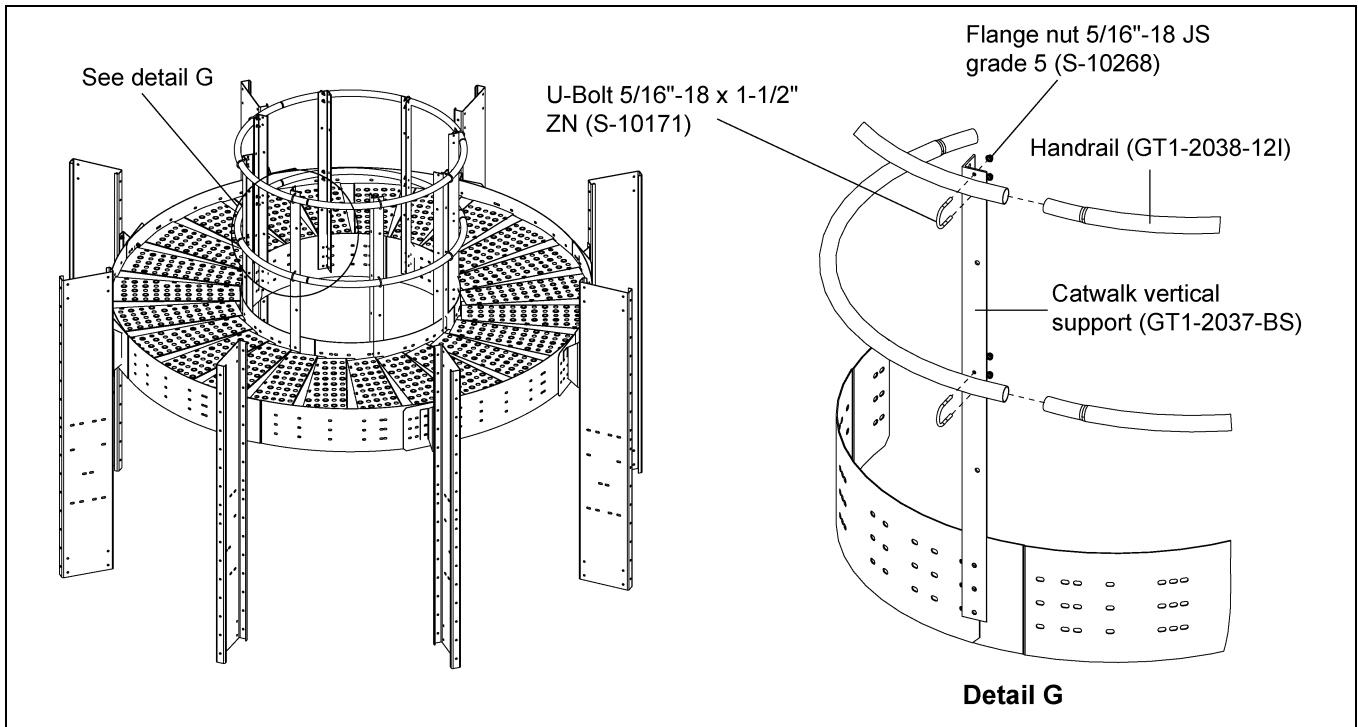
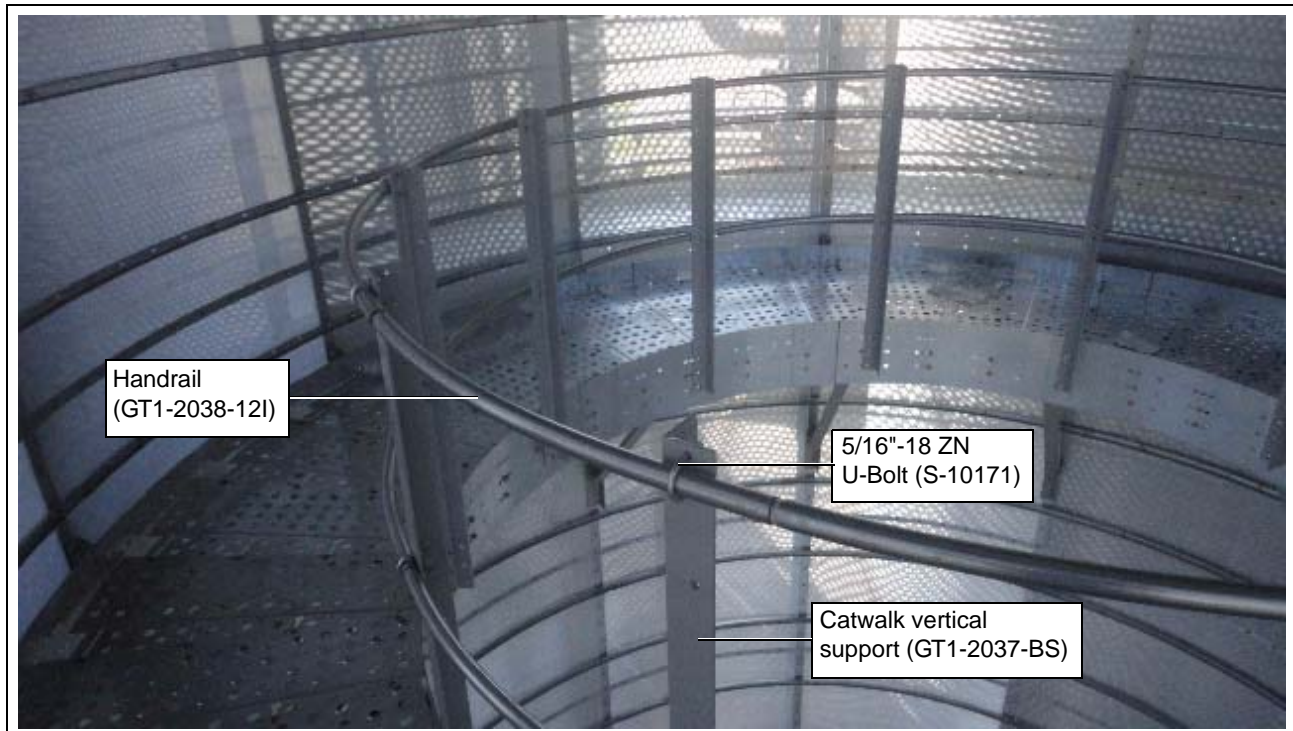

Figure 5L
Figure 5M
1. Install the handrail (GT1-2038-12I) to the catwalk vertical support (GT1-2037-BS) using 5/16"-18 ZN U-bolts (S-10171) and 5/16"-18 JS grade 2 nuts (S-10268) to tighten the handrail with vertical post. (See Figure 5L and Figure 5M.)